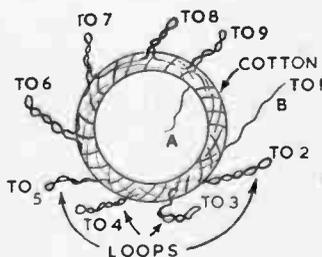

Fig. 2—The coil
Take some small, smooth object about 1 in. to 1 $\frac{1}{4}$ ins. in diameter and begin to wind the wire on this. Hold the beginning (A) in Fig. 2) with one finger and wind on thirty turns in a pile. Now make a loop about 2 ins. long by twisting the wire, and wind on ten turns. After that make a second loop, wind on ten more turns, and make a third loop. Continue in this way until there are eight loops. Then wind on a final ten turns and cut off the wire, leaving end 'B'.
Carefully scrape each tapping and ends (A) and (B) to remove the insulation. Do not fracture the wire. Fig. 2 shows the finished coil.